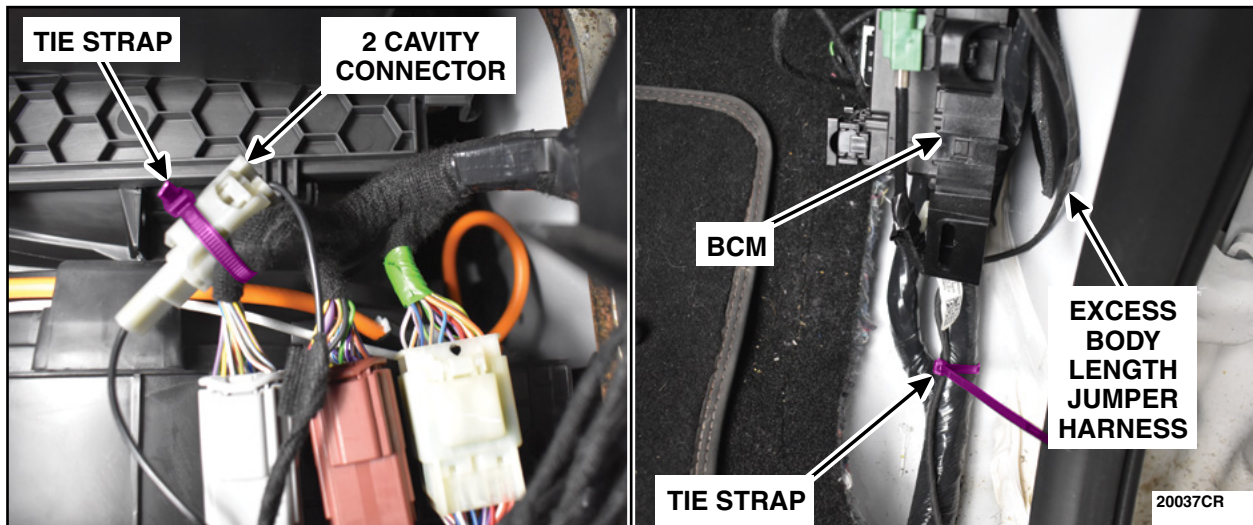

FIGURE 100
90. Secure the 2 cavity connector to a wiring harness near the 3 connectors in the glove compartment area. Secure the excess Body Length Jumper Harness to the wiring harness below the BCM using a tie strap. See Figure 100.